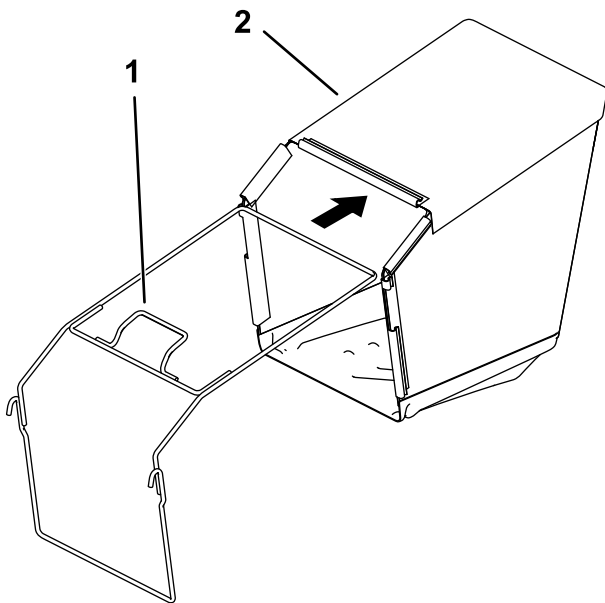

Figure 6
2. Insert the frame into the grass bag, keeping the handle above the grass bag (Figure 6).